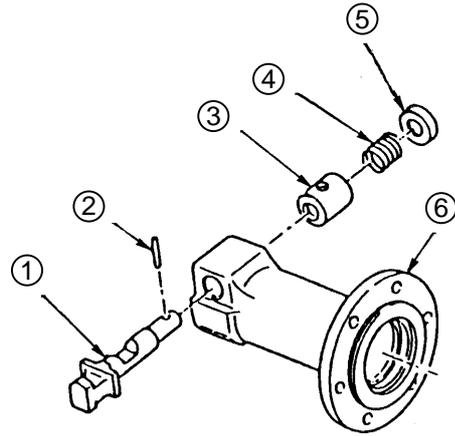

Fig. 11
(6) Reassembly of the Stop Lever ①:
Prior to reassembly, thoroughly coat the grease (Molub Alloy # 777-1, part No. 971042, is recommended) on the sliding portion of the Stop Lever ①. As illustrated in Fig. 11, place the end surface of the Stop Lever ① on the flange portion of the Front Cover ⑥, and compress the Lever Spring ④ by pressing Damper (B) ⑤ with two slender minus screwdrivers. Then, align the holes of the Stop Lever ① and Spring Case ③, and insert the Needle Roller ②.